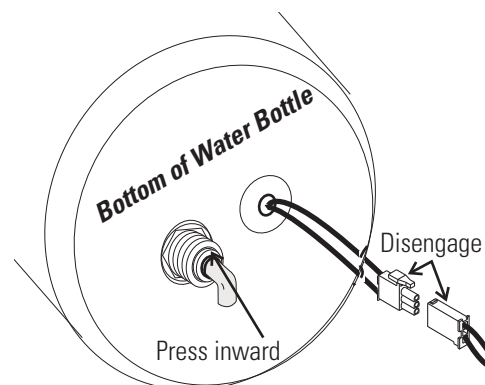

Figure 7-2. Drain Water Bottle
7. Attached to the bottom of the water bottle is a length of tubing and low voltage wiring (Figure 7-2). Disconnect the tubing by pressing inward on the collar where the tubing connects to the bottle. Pull the tubing free. Disengage the wiring at the connector.
3. Connect the other end of the fitting to the quick-connect drain located below the fold-down storage door (Figure 7-2). With the incubator turned On, allow the entire humidity system to drain. This could take several minutes.